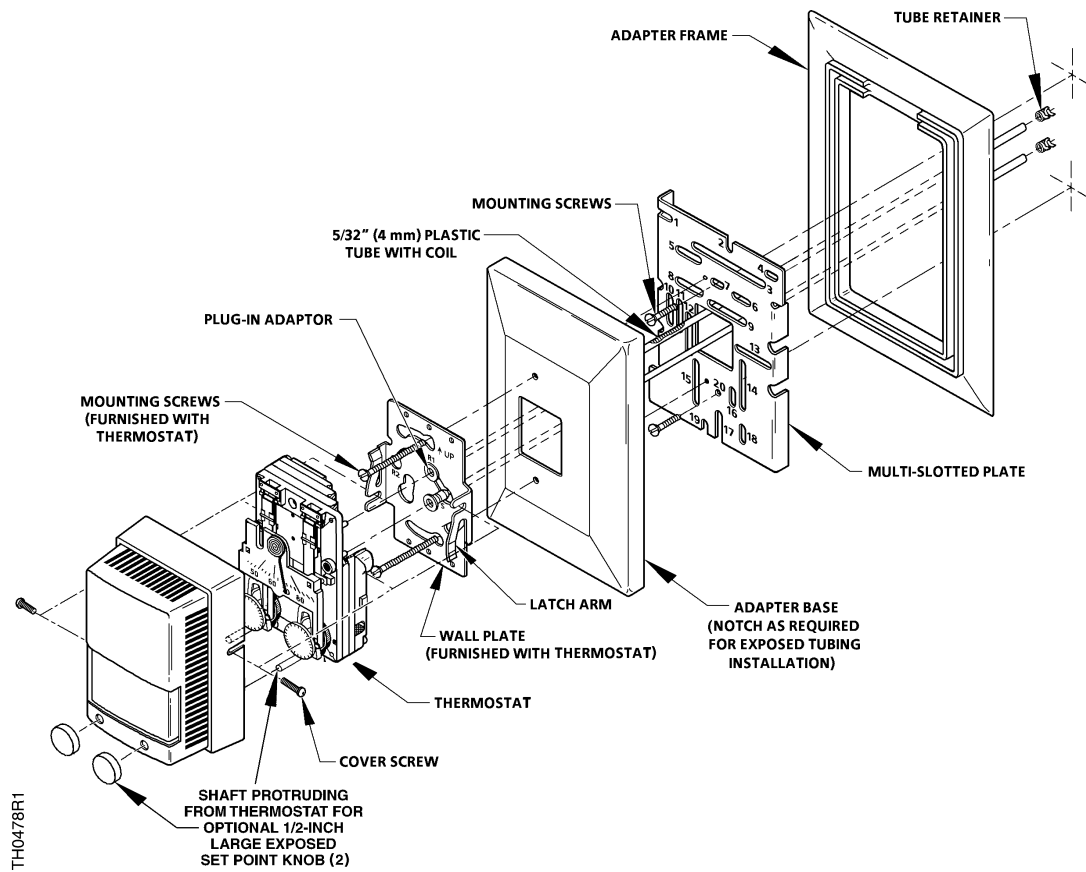

Figure 1. Typical Thermostat Installation.
Figure 1 shows a typical thermostat installation.
1. Complete the required air line connections as necessary. Secure all connections and install the plug-in adapters into the 5/32-inch (4 mm) plastic tube. Use the blue adapter for the supply air line. See Figure 1.
NOTE: For applications that use the 1/2-inch large set point adjustment knob, align the key hole in the cover over the shaft protruding from the thermostat when mounting the cover (see Figure 1).